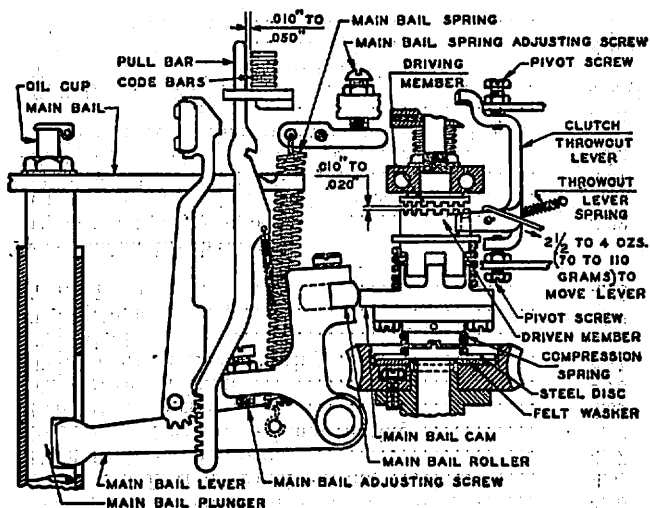

Fig. 1
(a) Main shaft clutch teeth shall clear each other by min. .010", max. .020" as in Fig. 1 when clutch is fully cammed out of engagement.
4.03 **Clutch Throw-Out Lever Spring** shall have a tension of min. 2-1/2 ozs., max. 4 ozs. measured at right angles to the throw-out lever as in Fig. 1 with clutch teeth fully engaged.